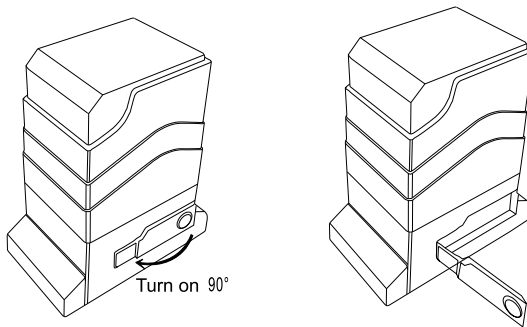

Figure 5
- b) Please unlock the main engine before installation, the unlock method is: take out the key cover, insert the key, and open the manual release bar till it rotates by 90° as shown in Figure 5. Then turn the output gear and the gear can be rotated easily;